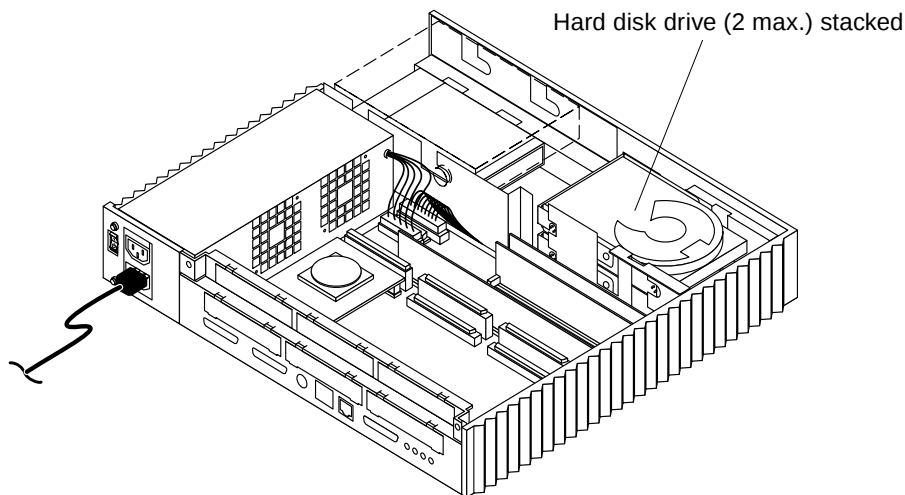

FIGURE 9-1 Location of Hard Disk Drives
- 3. Determine which drive to remove (FIGURE 9-1); the system supports up to two internal hard disk drives.**